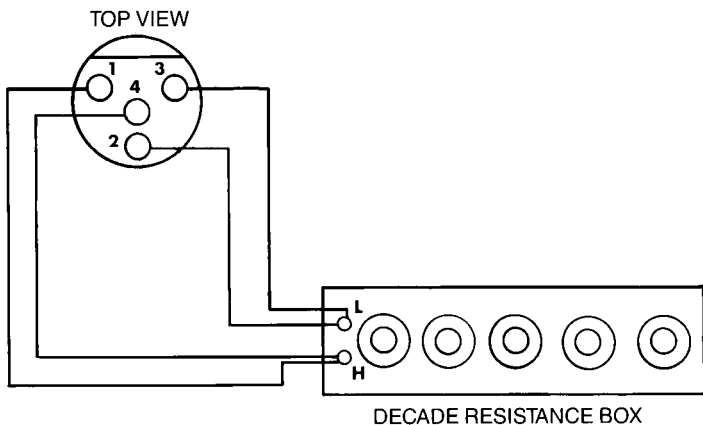

Figure 5-2.
1. Connect the precision decade resistor box to the instrument as shown in Figure 5-2.
1. Connect the precision resistance box to the instrumentation connector as shown in Figure 5-2. Plug the connector into the instrument.